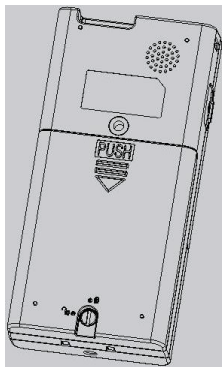

Fig.2-4
- 1) Open the battery cover: Rotate the fixing screw slightly in the rear panel to the position which is marked with "" and then push the cover as indicated by arrowhead, as shown in Fig.2-4.